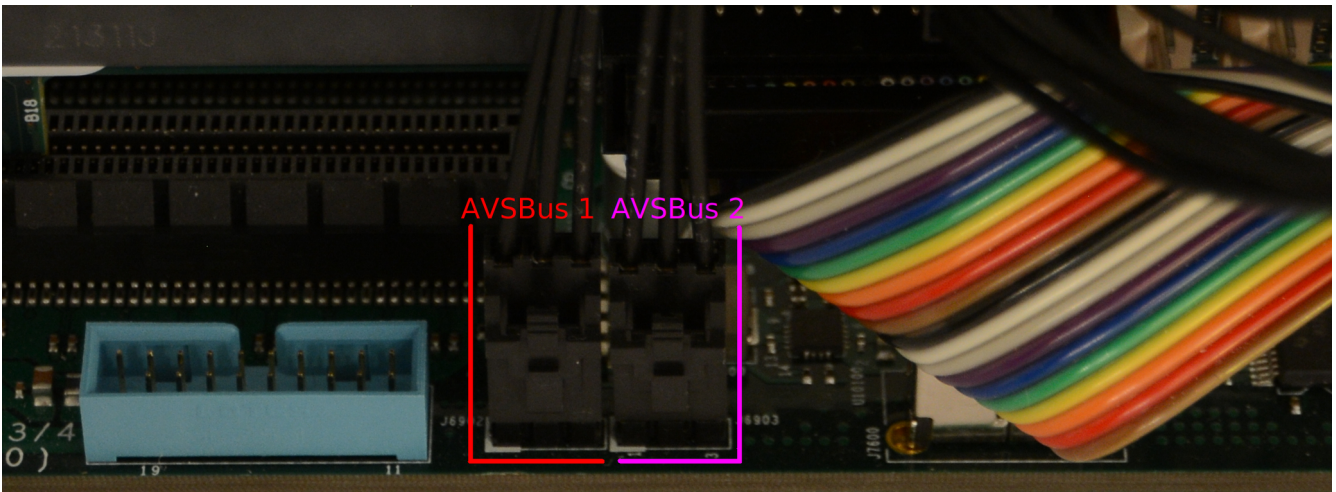

Figure 10: AVSBus Cable Installation
- Plug the two AVSBus connectors into their respective headers on the Talos II host system as shown in Figure 10. AVSBus1 is normally provided by J100 on the BMC card, while AVSBus2 is normally provided by J101 on the BMC card. This is reconfigurable in HDL and firmware, so while the Kestrel BMC stack will be using these assignments, other BMC stacks may require different wiring.